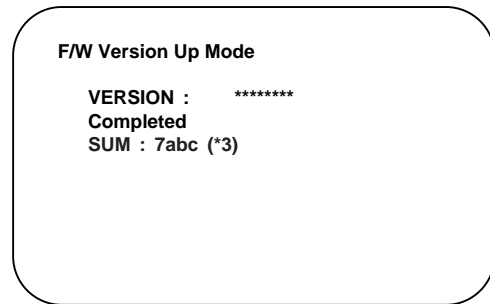

Fig. 3-2-5 Completed Program Mode Screen
5. After programming is finished, the tray opens automatically. Fig. 3-2-5 appears on the screen and the checksum in (*3) of Fig. 3-2-5 appears on the VFD. (Fig. 3-2-6)